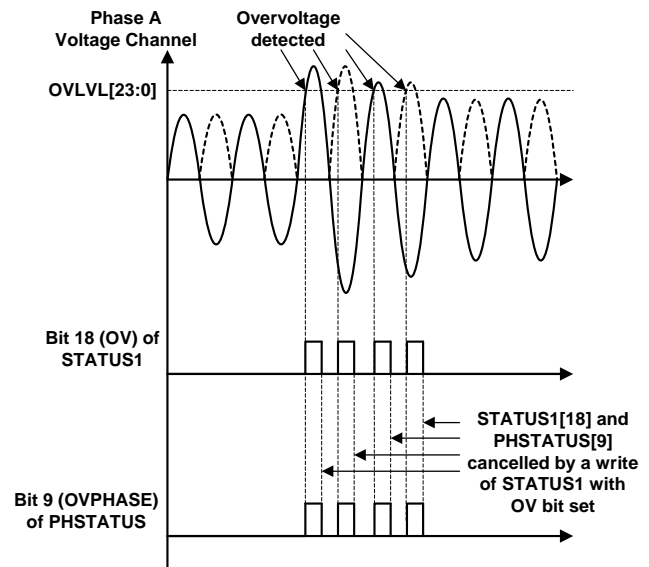

Figure 33. ADE7858 Overvoltage Detection
The ADE7858 detects when the instantaneous absolute value measured on the voltage and current channels becomes greater than thresholds set in OVLVL[23:0] and OILVL[23:0] 24-bit unsigned registers. If bit 18 (OV) in MASK1[31:0] register is set, $\overline{\text{IRQ1}}$ interrupt pin is driven low in case of an overvoltage event. There are two status flags set when $\overline{\text{IRQ1}}$ interrupt pin is driven low: bit 18 (OV) in STATUS1[31:0] register and one of bits 11, 10, 9 (OVPHASE[2:0]) in PHSTATUS[15:0] register identifying the phase that generated the overvoltage. The status bit 18 (OV) in STATUS1[31:0] register and all bits 11, 10, 9 (OVPHASE[2:0]) in PHSTATUS[15:0] register are cleared and $\overline{\text{IRQ1}}$ pin is set back high by writing STATUS1[31:0] register with the status bit set to 1. Figure 33 presents overvoltage detection in phase A voltage. Whenever the absolute instantaneous value of the voltage goes above the threshold